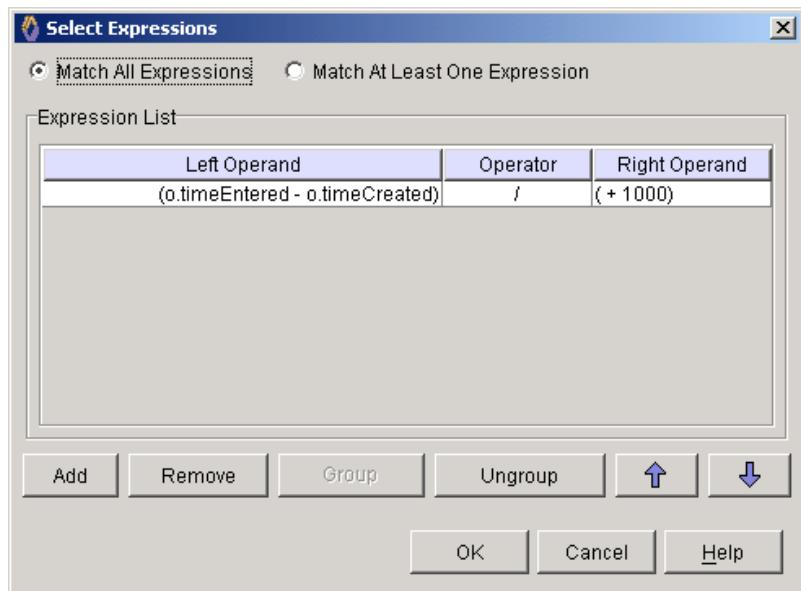

Figure 17-2 Select Expressions
3. In the **Select Expressions** dialog box (Figure 17-2) that appears, click **Add**. A row is added.